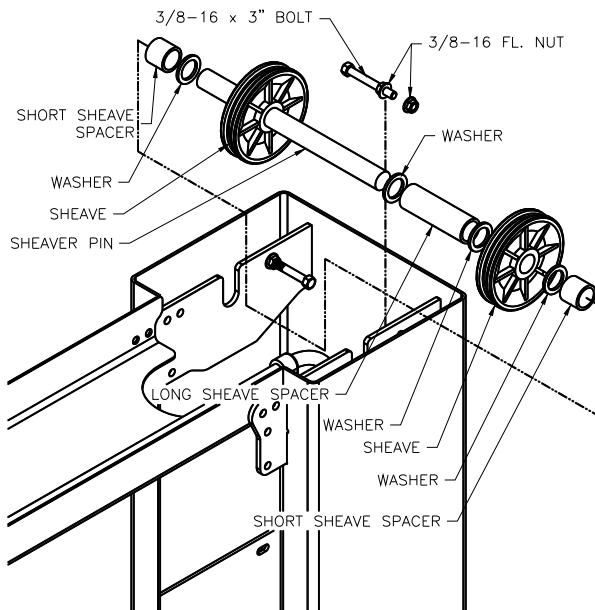

Fig 5 – Sheave Assembly
17) Assemble the sheaves and spacers onto the sheave pin as shown in Fig 5. Set in cradle with all assembly parts between the two plates.
- 20) At the top of each column extension assemble the cable trapping hardware with a 3/8-16 x 3”Lg bolt with (2) 3/8-16 flange nut at each sheave location, **Fig 5**.